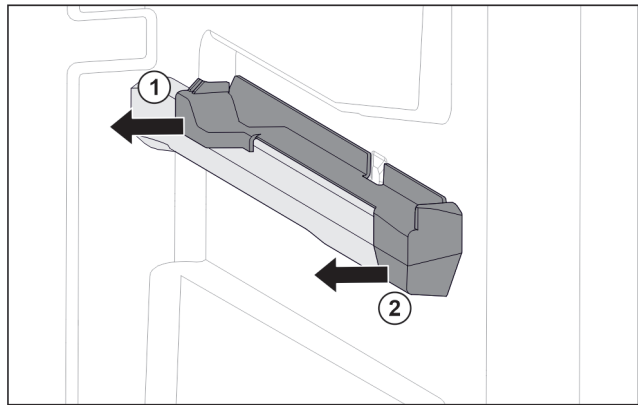

Fig. 131 Attachment on the right moulded rib
- ▶ Pull off attachment at the back sideways. Fig. 131 (1)
- ▶ Pull off attachment at the front sideways. Fig. 131 (2)